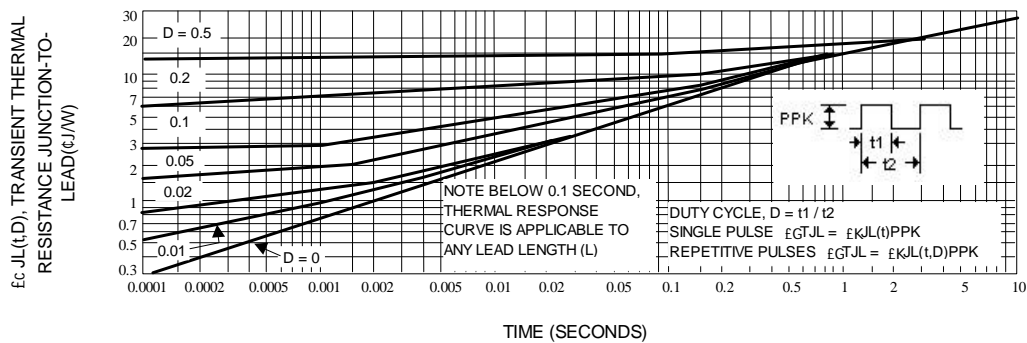
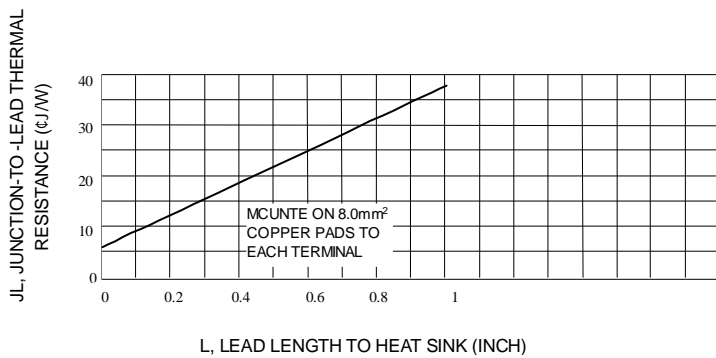
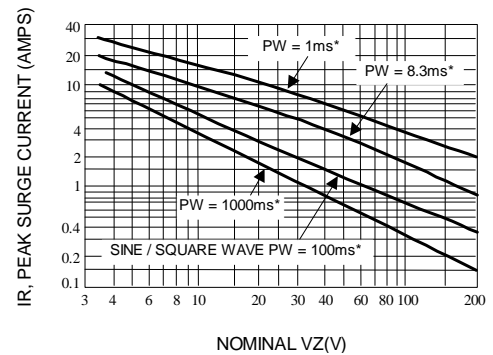
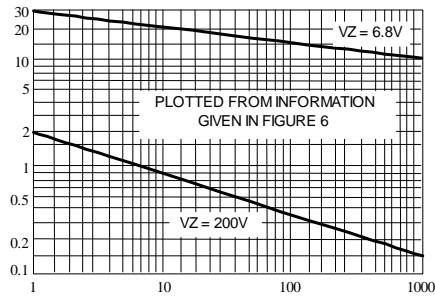

Fig. 3-TYPICAL THERMAL RESPONSE
Fig. 4-TYPICAL THERMAL RESISTANCE
Fig. 5-MAXIMUM NON-REPETITIVE SURGE CURRENT VERSUS NOMINAL ZENER VOLTAGE (SEE NOTE 3)
Fig. 6-PEAK SURGE CURRENT VERSUS PULSE WIDTH(SEE NOTE 3)
3. SURGE CURRENT (I_r) - Surge current is specified as the maximum allowable peak, non-recurrent square-wave current with a pulse width, PW, of 8.3 ms. The data given in Figure 5 may be used to find the maximum surge current for a square wave of any pulse width between 1 ms and 1000ms by plotting the applicable points on logarithmic paper. Examples of this, using the 6.8v and 200V zeners, are shown in Figure 6. Mounting contact located as specified in Note 3. ($T_A=25 \text{ }^\circ\text{C}$ at T_J).
θ_{JT} is the increase in junction temperature above the lead temperature and may be found from Figure 3 for a train of power pulses or from Figure 4 for dc power.
Data of Figure 3 should not be used to compute surge capability. Surge limitations are given in Figure 5. They are lower than would be expected by considering only junction temperature, as current crowding effects cause temperatures to be extremely high in small spots resulting in device degradation should the limits of Figure 5 be exceeded.
*** Data of Figure 3 should not be used to compute surge capability. Surge limitations are given in Figure 5. They are lower than would be expected by considering only junction temperature, as current crowding effects cause temperatures to be extremely high in small spots resulting in device degradation should the limits of Figure. 5 be exceeded